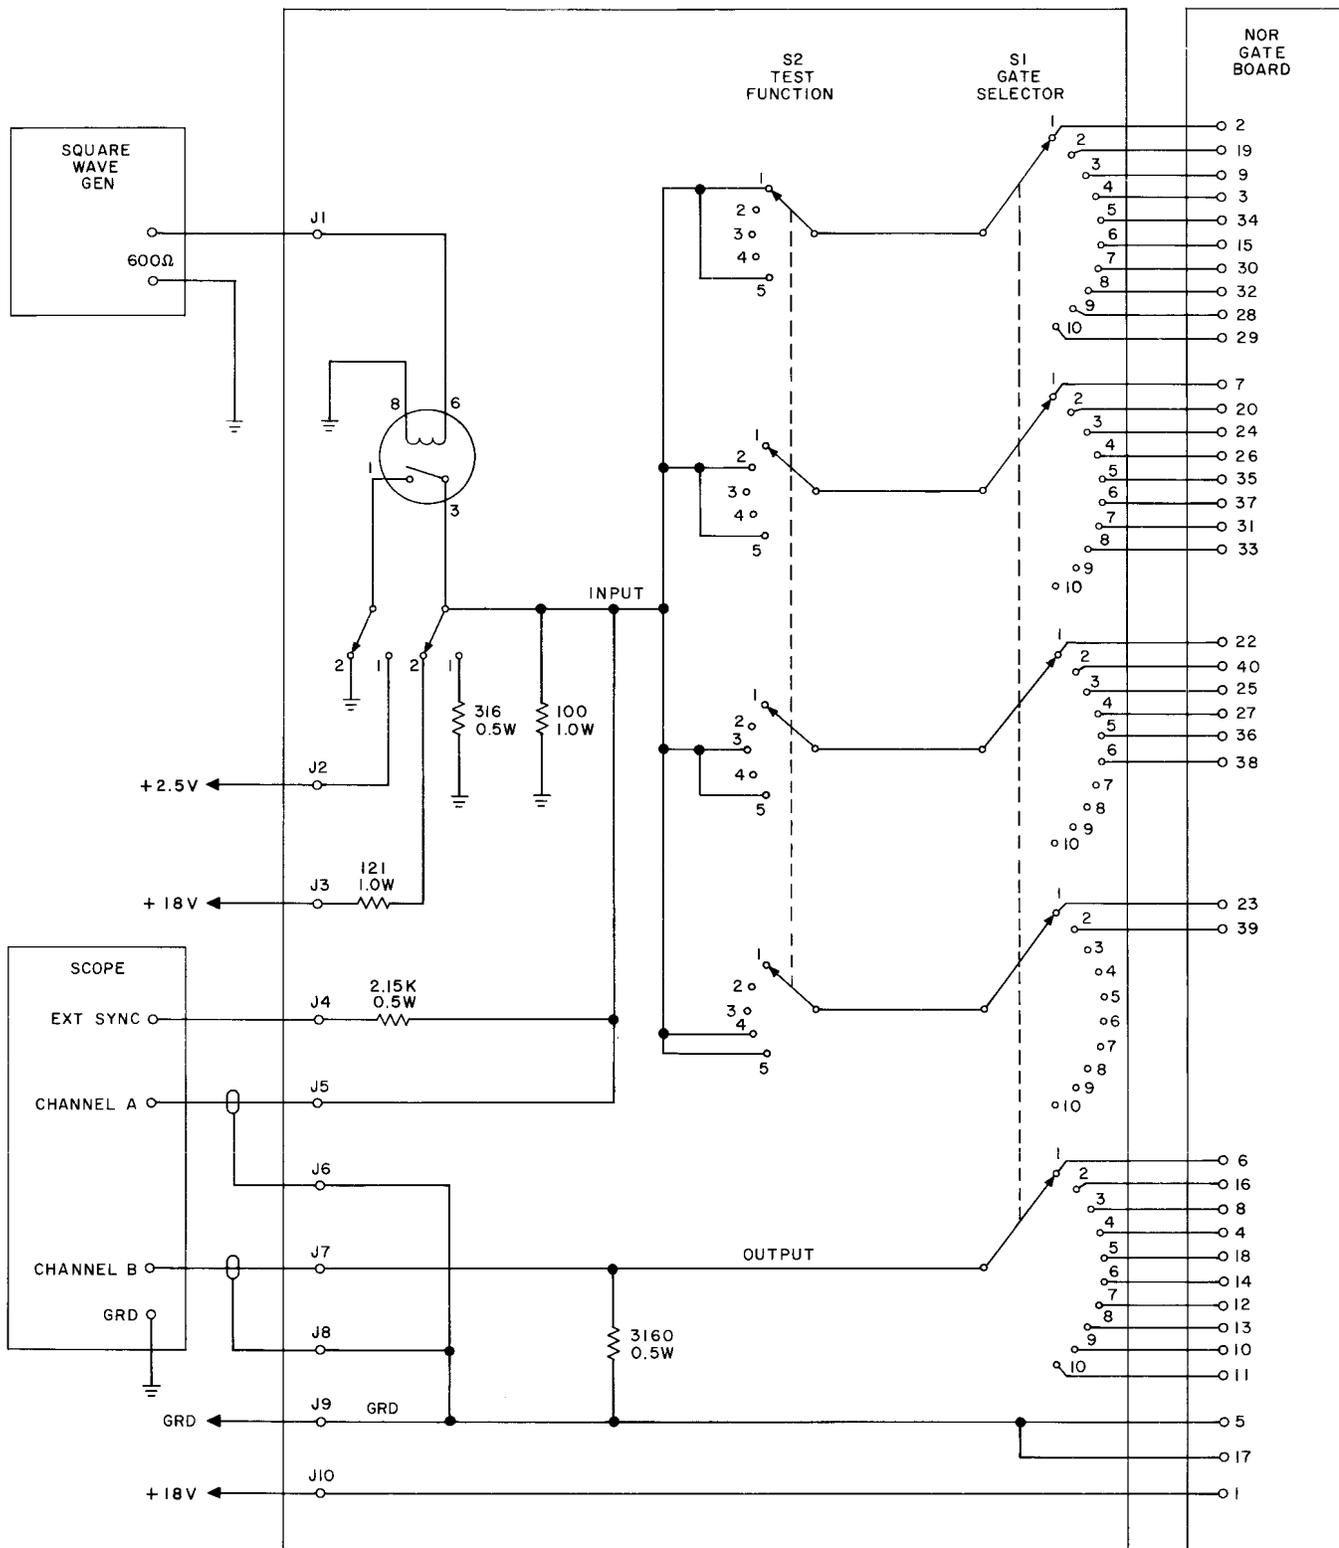

Fig. 1A — NOR Gate Test Set
- 1 — NOR gate test set such as shown in Fig. 1A
(1) Connect the test circuit as shown in Fig. 1A.